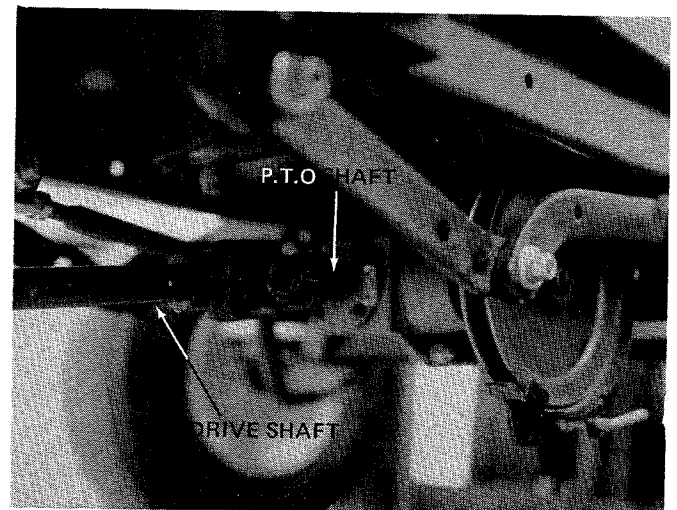

FIGURE 15
- Place end of drive shaft over P.T.O. shaft on front of tractor. See figure 15.